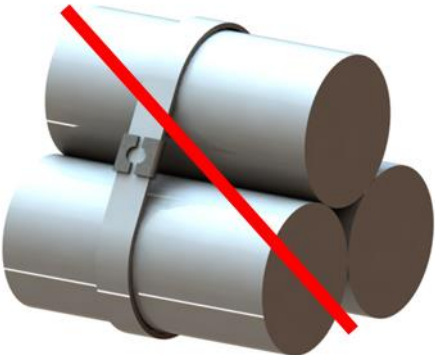

Figure 32
- Buckle locations cannot be over air gaps (Fig. 32)